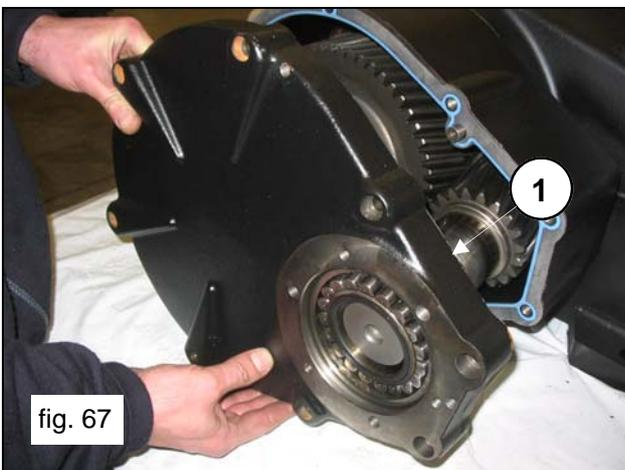

fig. 67
Assemble the reducer cover (pos. ①, fig.67) and fasten it using 8 M10x50 screws (pos. ①, fig.68). Use a stopper to avoid that the bearing comes out of its seat (pos. ①, fig.69). Calibrate the screws with the torque wrench as indicated in paragraph 3. "SCREW CALIBRATION"